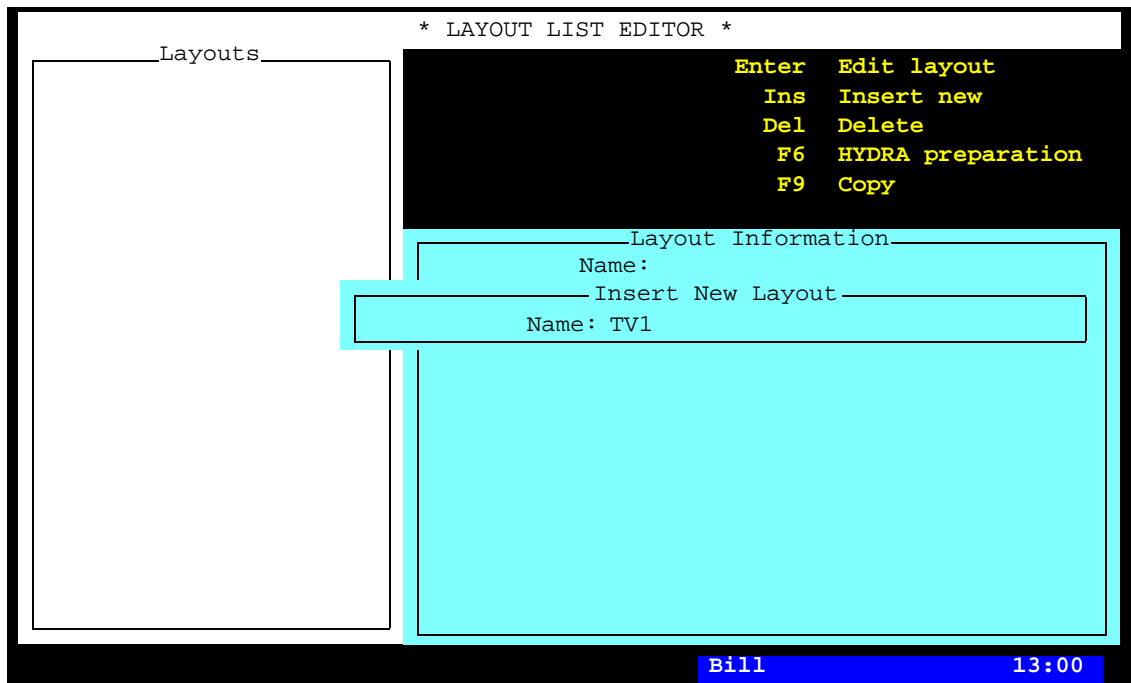

Figure 2-5. Entering a new layout
3. Enter the layout name, "TV1" as shown in Figure 2-5.